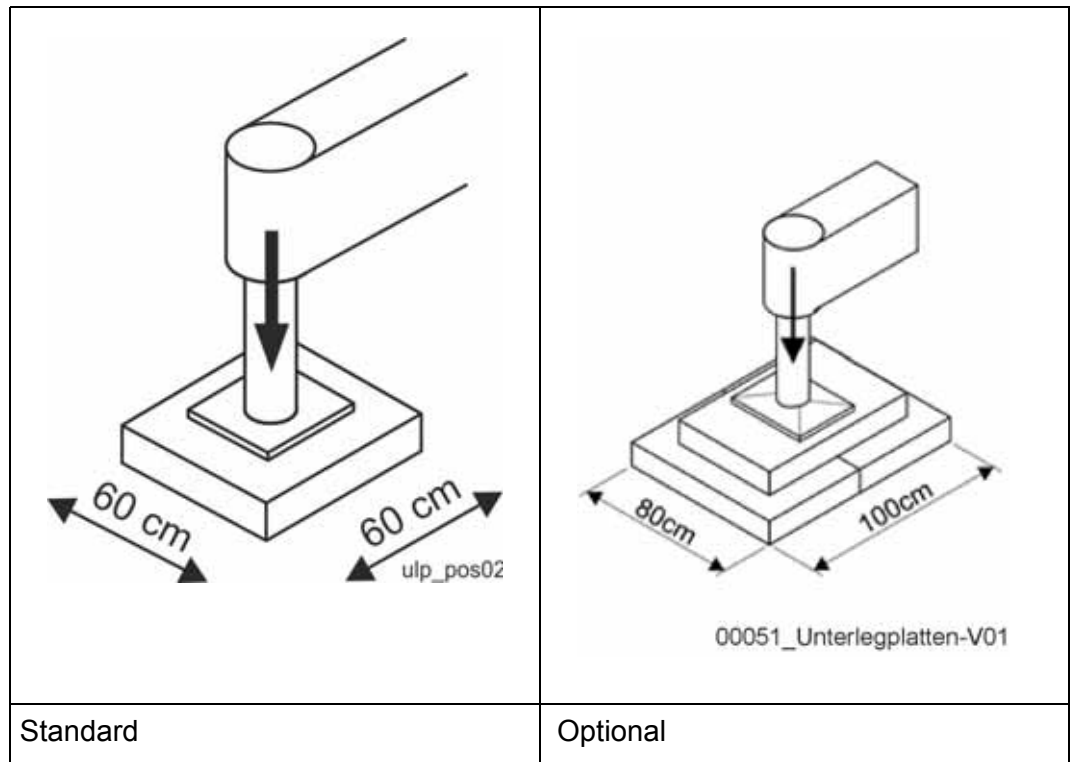

Fig. 128 Arrangement of support pads
For the optional version with 12 support pads (3 per support), two support pads per support will be placed side by side and one support pad will be placed centrally crosswise, see the "Optional" column (**Fig. 128**). The supporting surface then measures $0.50\text{ m} \times 0.80\text{ m} \times 2 = 0.80\text{ m}^2$.
- Place the support pads under the centre of each supporting leg as illustrated in **(Fig. 128)**. If necessary, adjust the positions of the support pads only; do not move the outrigger.